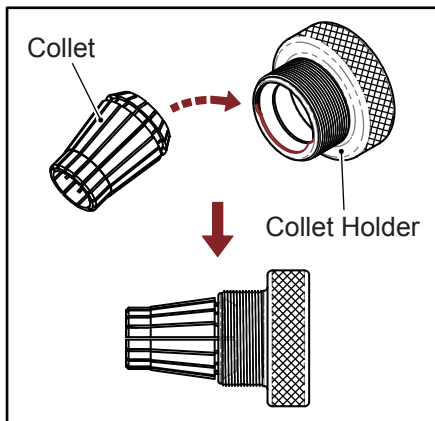

Fig. 6-1
2. Put collet into collet holder by 45° angle. (Fig. 6-1)